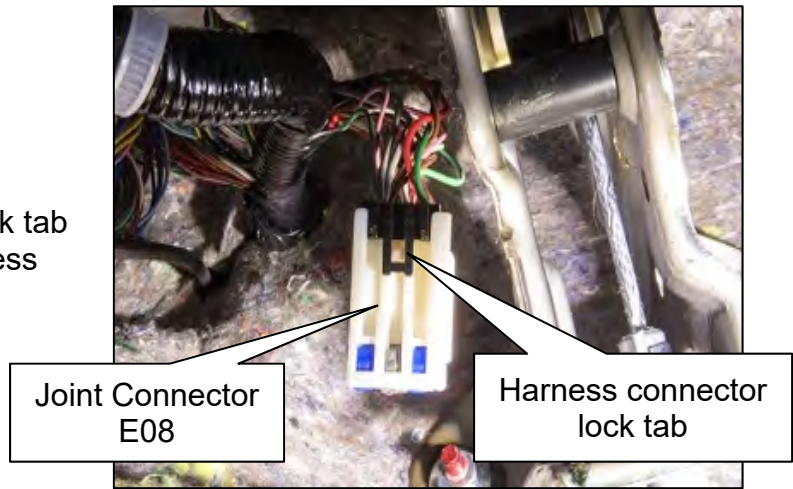
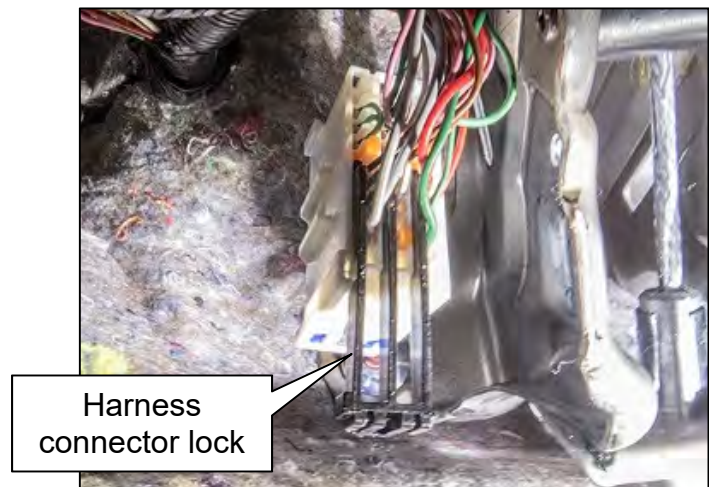

Figure 4
Figure 5
7. Release the harness connector lock tab (Figure 4), and then slide the harness connector lock out (Figure 5) and remove from Joint Connector-E08.